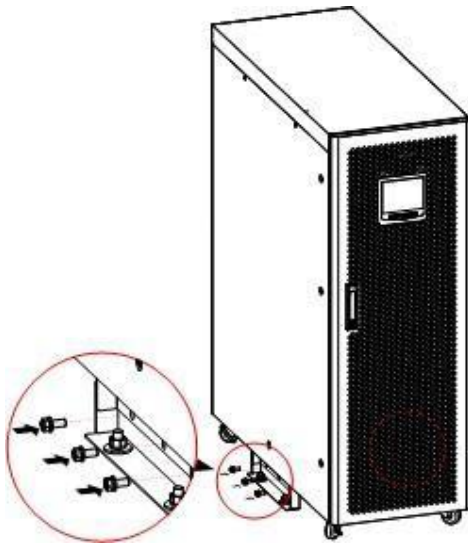

Figure3-14 Fasten the UPS
Step 5 Move the UPS from wooden bracket to the installation site, lock UPS with supporting plate by six M8 hexagon bolts, as shown in Figure3-14, then screw the bolts of supporting plate.